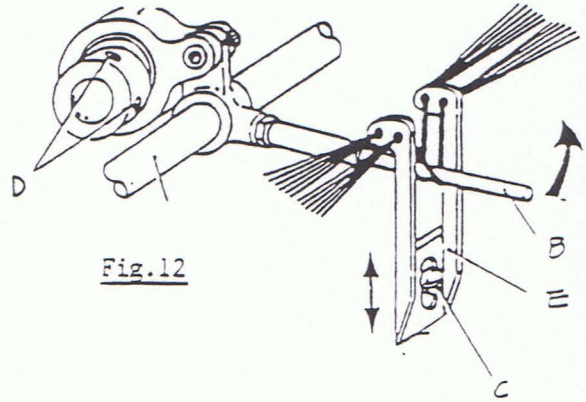

Fig.12
a) synchronization of retaining bar and looper Fig. 12)
This adjustment can be made with loosening screw C Fig.12 as height of eyelet can be changed.